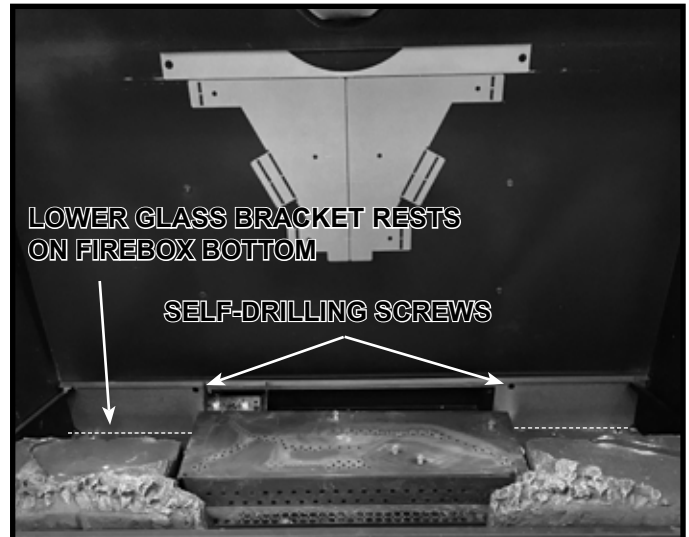
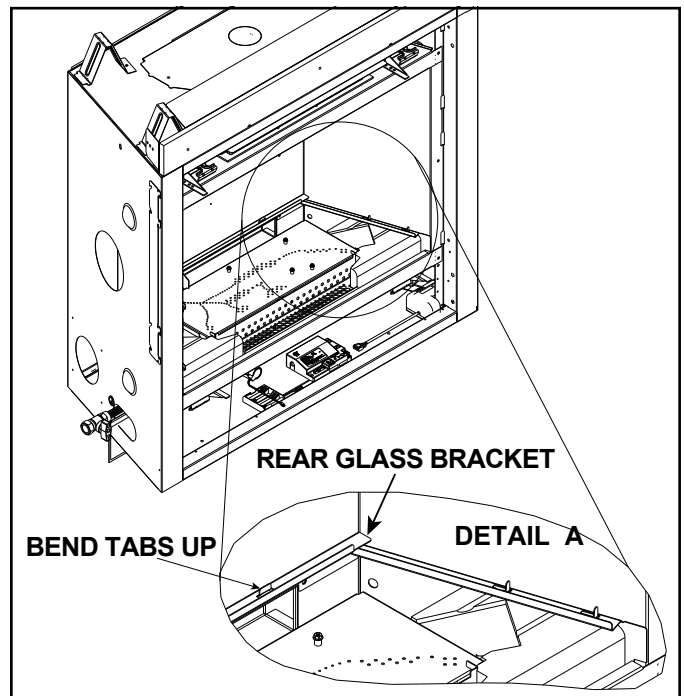

Figure 11.9 Rear Lower Glass Bracket Installed
Figure 11.10 Bend Tabs on Lower Side and Rear Glass Brackets
2. Remove the rear lower glass bracket from the back of the firebox by pulling forward on the top edge to break it free. See Figure 11.8. Bend the hand bend features “up” to about 45 degrees and install the rear lower glass bracket using the self drilling screws from the manual bag. The bracket must rest on the bottom of the firebox. See Figure 11.9 and Figure 11.10.
**Note:** The lower glass bracket spans the entire width of the back wall of the firebox and rests above the side lower glass brackets. See Figure 11.10, Detail A.